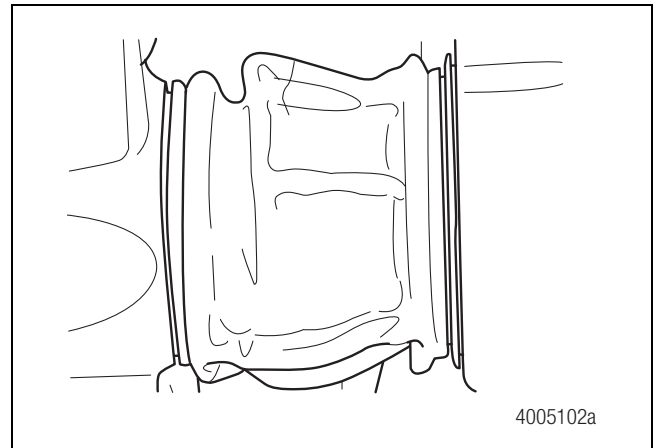

Figure 5.57
6. Check the housing assembly to verify that it slides by hand on the slide pins. Take care not to trap your fingers while you check the sliding action of the housing assembly. Slide the housing assembly back and forth several times to check for smooth movement on the slide pins. The boots are correctly installed if they collapse from the pressure changes within the slide pin mechanism. Figure 5.57.